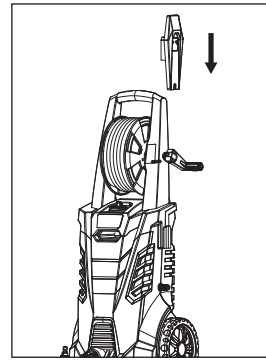

Figure 4 - Attach power cord hook
2. Attach the power cord hook (See Figure 4)